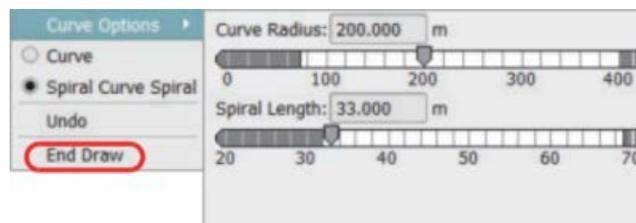

Figure 5
8. Select Curve or Spiral Curve Spiral for the transition between tangents, according to the project requirements, as shown in Figure 5.
12. Double-click to set the last point or right-click and select **End Draw**, as shown in Figure 5.